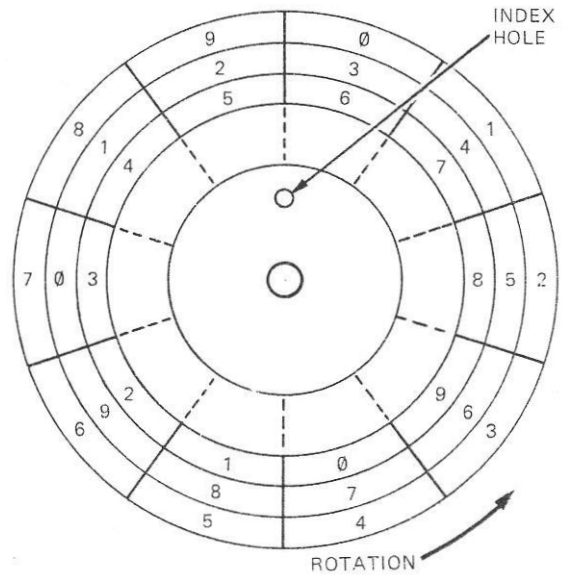

Figure 7. Data Format
The storage of data on floppy disc is organised by disc and surface, track and sector (Figure 7) as follows:
- *Sectors.* Each sector consists of identity and data fields. A data field holds up to 256 bytes of data. The sectors are recorded on a +3 stagger to obtain file transfers in the minimum number of disc revolutions (Figure 7).